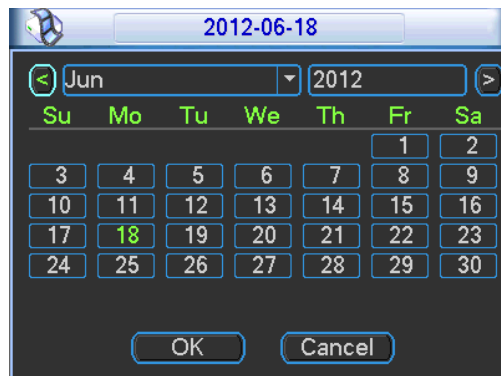

Figure 4-19
- Record types: There are four types: regular, motion detection (MD), Alarm, MD & alarm.
- Holiday setting: Click it you can see an interface shown as in Figure 4-19. Here you can set holiday date. Check the box, it means current channel shall record as your holiday setup. Please go to the Period interface to set the holiday date record setup. Please note you need to go to Chapter 5.3.1 to enable Holiday function first.